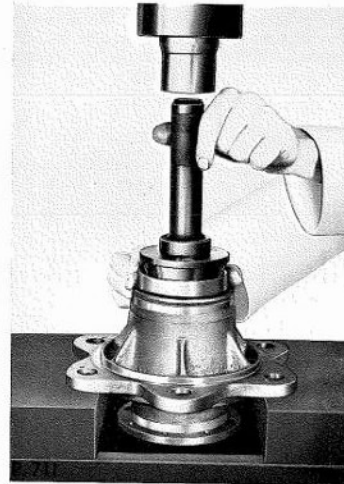

Fig. G.4. Pressing in the wheel hub inner bearing cup, using the Churchill Tool R.G.322, in conjunction with the universal handle 550
2. To facilitate fitting of the bearing cups (thick end foremost), to their respective registers in the hub, it is recommended that the Churchill Adaptor Pads R.G.322 and R.G.321 are used, these pads being applicable to the inner and outer bearing cups respectively. These adaptor pads are for use on a press, in conjunction with the Churchill Universal Handle 550. Press each bearing cup into its register in turn until flush against the shoulder in the hub (see Fig. G.4). Remove the adaptor pads. Ensure the bearing cups abut their respective shoulders in the hub squarely.